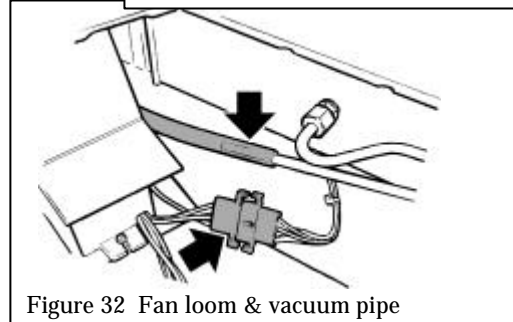

Figure 32 Fan loom & vacuum pipe
14.9.3 Detach the fan wiring loom connection. (see figure 32).
14.9.4 Detach the plastic vacuum tube from the metal vacuum pipe (see figure 32).